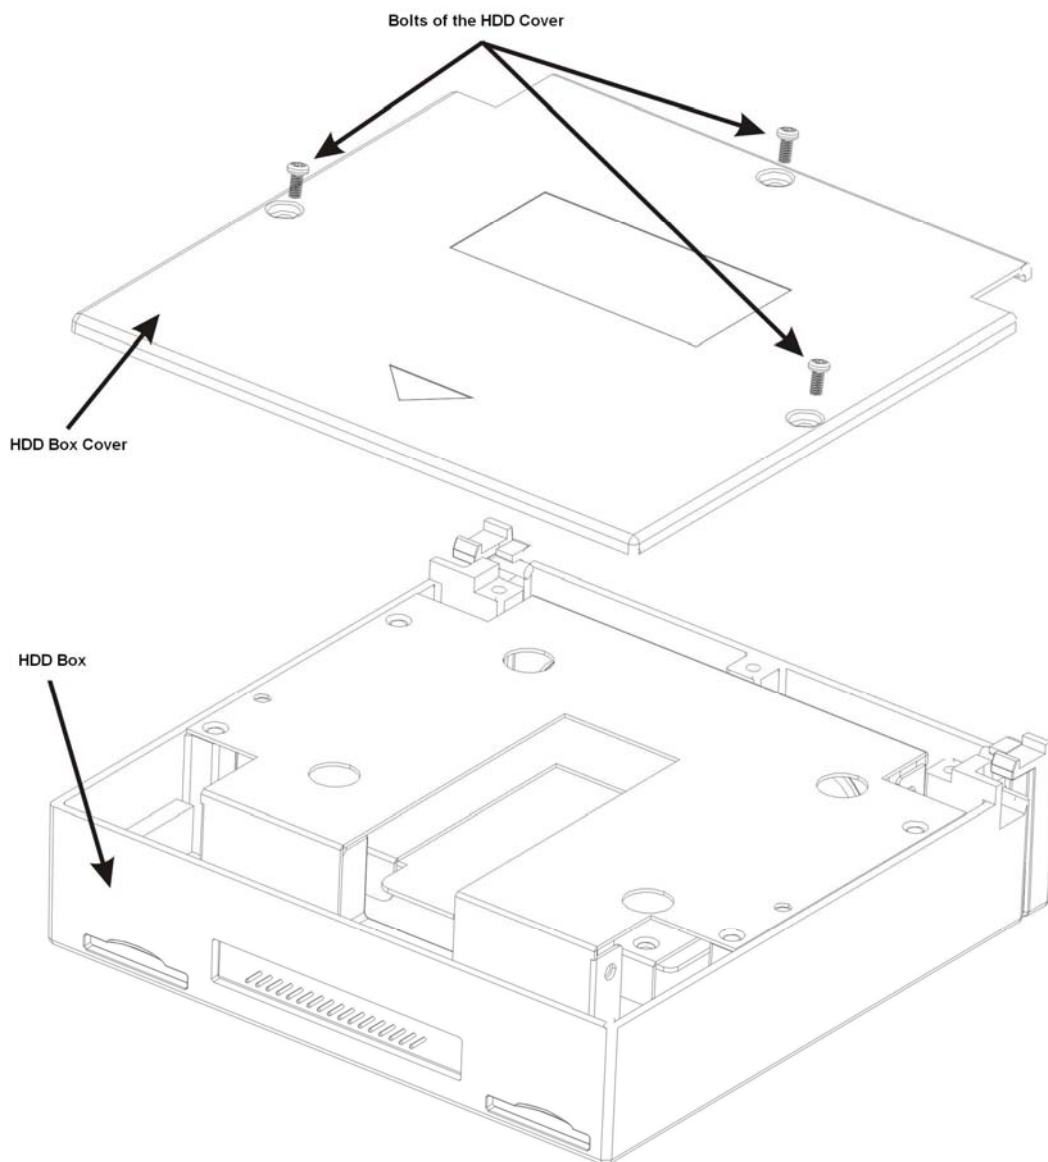

Figure 2-13
- 1) The HDD box and the parts are shown as below. See Figure 2-13. Please loosen the bolts of the HDD box and then remove the HDD box.